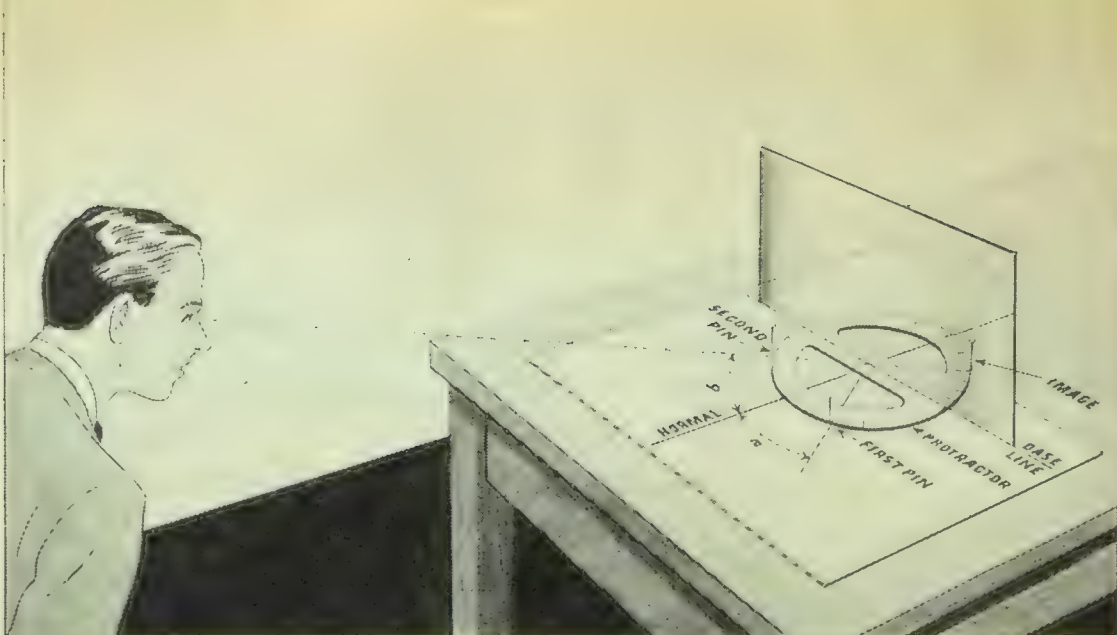

FIG. 451. Apparatus for Experiment 101
mirror and the normal (perpendicular) to the mirror at that point is called the *angle of incidence* (angle  $a$ , Figure 451). The angle between the reflected ray and the normal is called the *angle of reflection* (angle  $b$ ). From the experiment, how does the angle of incidence compare in size with the angle of reflection? What would happen to a ray of light that struck the mirror or any reflecting surface perpendicularly? You understand now why you can see objects on the other side of the room, and even around a corner, when you look slantingly into a mirror.
5. Hold a brightly lighted pin close to a mirror in such a way that you see the image of the pin at a more oblique angle than is shown in Figure 451. Do you see one or two faint images of the pin in addition to the clear image? Explain why you see what you see.